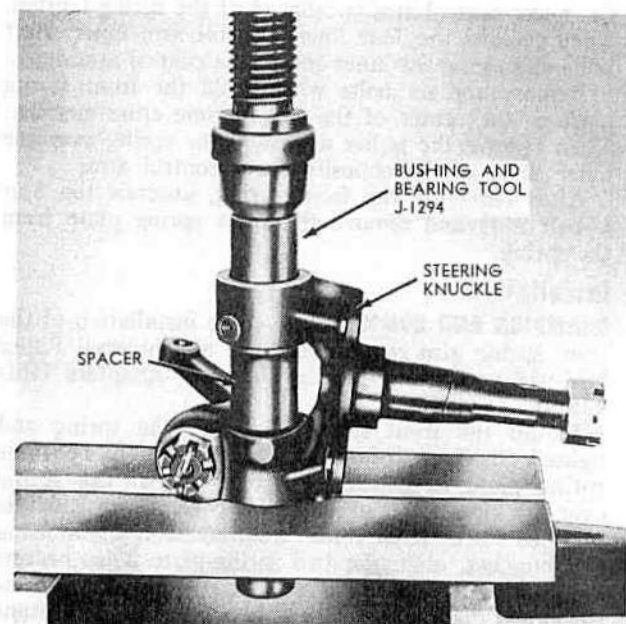

FIG. 191
**CHAMPION** Remove the lubrication fitting from the steering knuckle. Place the steering knuckle in an arbor press, and using Steering Knuckle Bushing and Bearing Tool J-1294, press the roller bearing, spacer, and bronze bushing out of the knuckle (see Fig. 191).